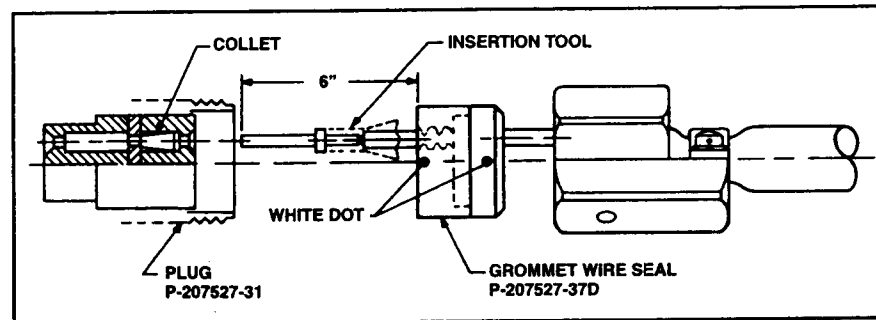

FIGURE 3
4. Using the red tip of the insertion tool, insert the socket contact into the plug connector. See Figures 3 & 4.